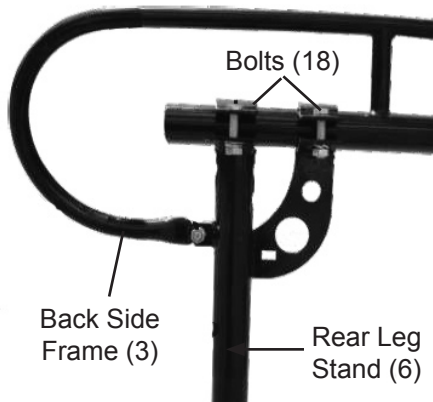

Figure 1
3. Slide Rear Leg Stands (6, 7) into curved rail ends of Back Side Frames (3). Using wrench (not included) fasten together with Bolts (18), Nuts (19) and Flat Washers (20). See **Figure 1**, below.